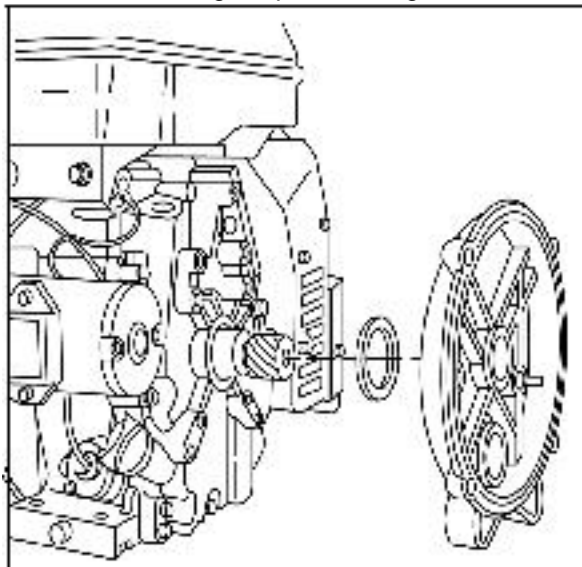

Fig. 27
1. Install new cork gasket on housing, and place housing against cylinder cover in original position, Fig. 27.
Install mounting screws (A) and locking plates (B) Fig. 27. Torque to listed value.